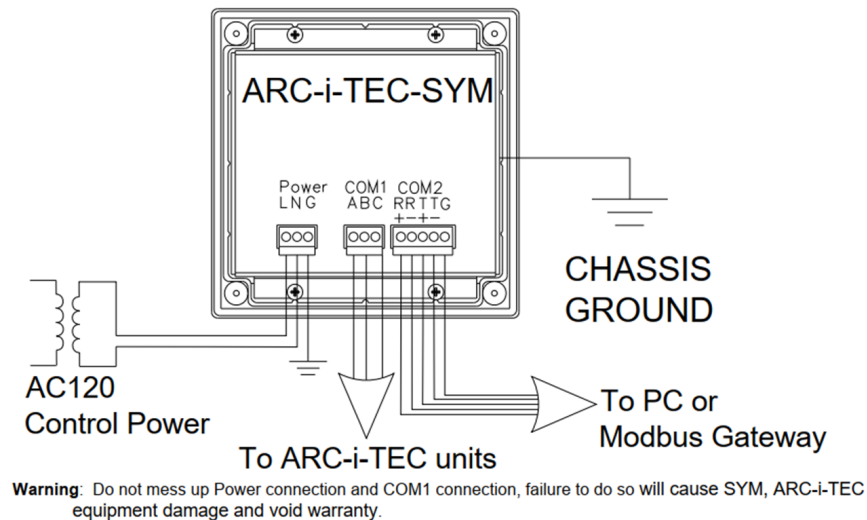

Figure 4.3.1: Communication between ARC-i-TEC and ARC-i-TEC-SYM
- SYM terminals: A, B, C must match slave terminals A (1), B (2), C (3) (Refer to Figure 4.3.1).